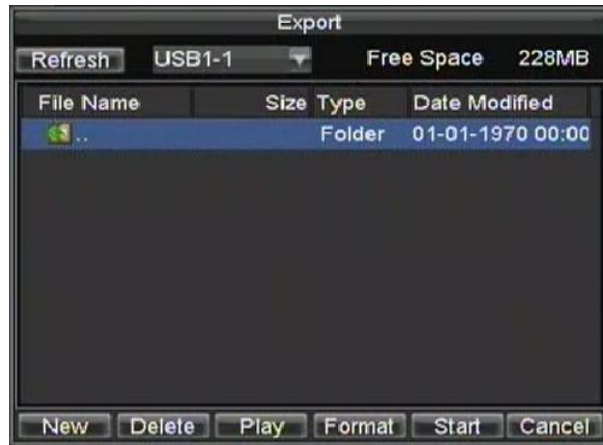

Figure 3. Export Menu
5. The size of the currently selected files is displayed in the lower-left corner of the window. Select the Next button to enter the Export menu, shown in Figure 3.